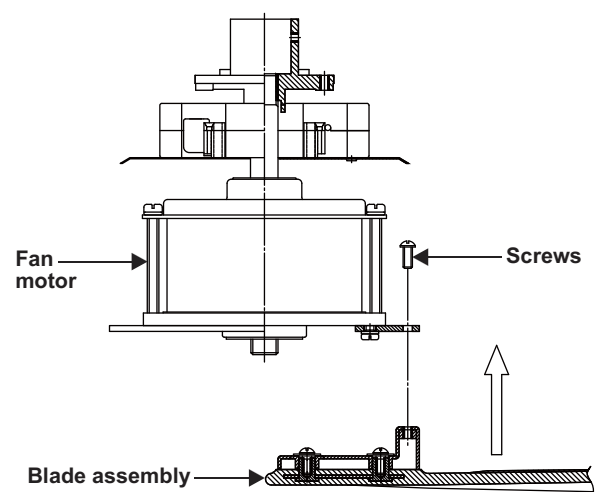

Figure 6
3. Fasten the blade assembly to the fan motor using the blade screws supplied. Repeat process with other blades. Tighten each screw and make sure the blade is straight. (Fig. 6)